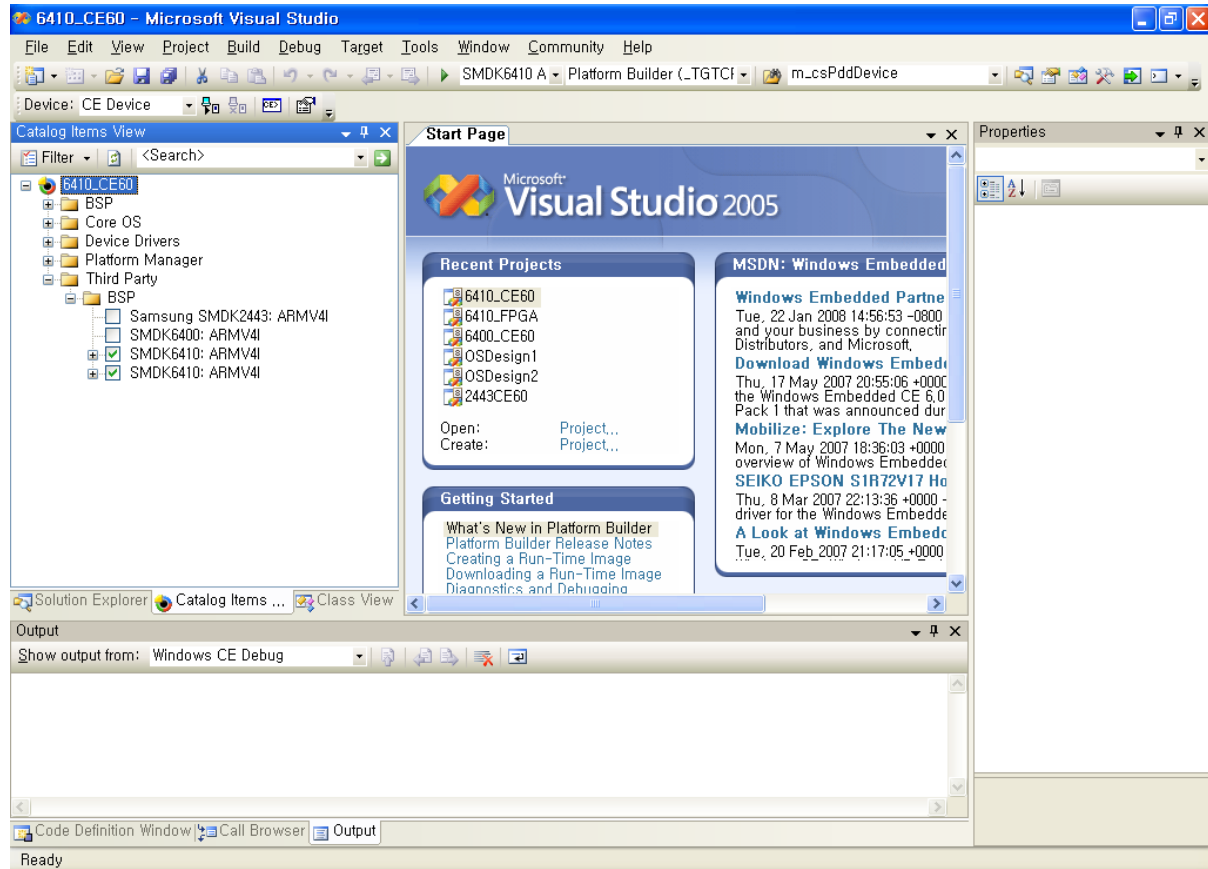

Figure 4-1 Catalog Items View
1. In the Visual Studio 2005 window on your host PC, you can see the new OS Design along with its various sub-directories on the left hand side Catalog Items View as shown in figure 4-1. Here, you can choose items what you want to include in your OS design. The chosen items in this instruction are only for sample purpose.